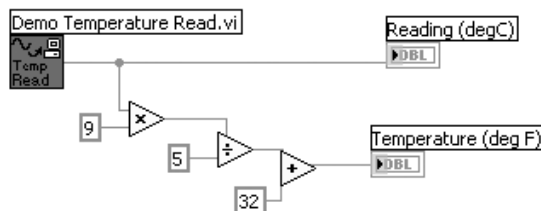

Figure 4.41
7. Build the block diagram shown in Figure 4.41. You might find it helpful to select **Tile Left and Right** from the **Windows** menu so that you can see both the front panel and the block diagram at the same time. We've provided you with a subVI in `EVERYONE\CH04` called "**Demo Read Temperature.vi**." To put this subVI in your block diagram, choose **Select a VI. . .** from the **Functions** palette. Once you wire this, your block diagram should look like the one shown in Figure 4.41.